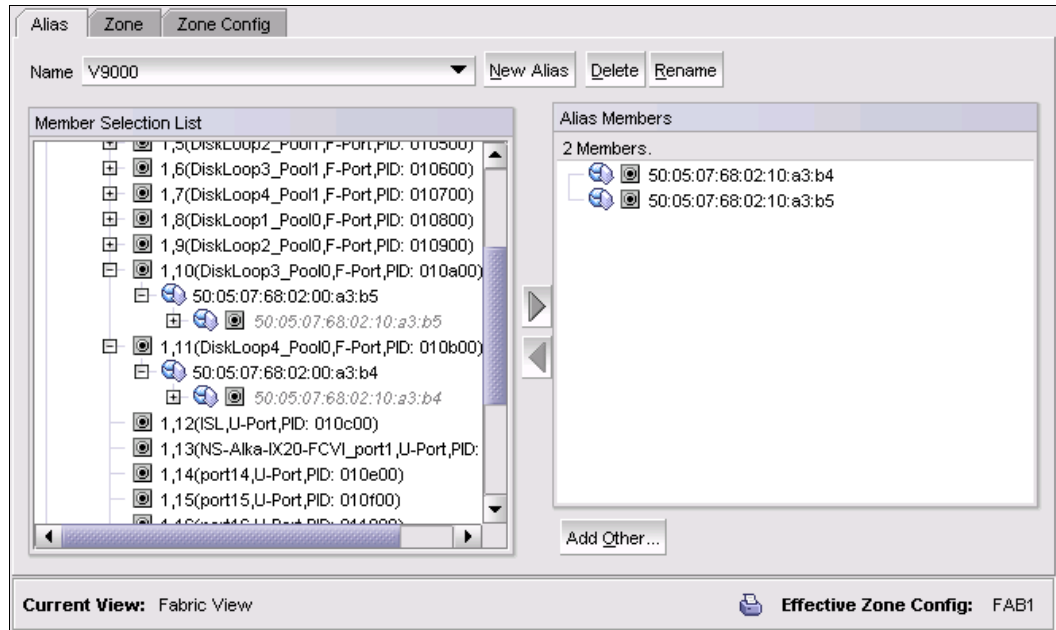

Figure 7-22 SAN switch ports 10 and 11 shows which WWNs are connected
3. By logging on to the SAN switches, review the zoning configuration either by using CLI or GUI (as in this example). The physical WWNs can be reviewed while they are connected to the SAN switch ports. IBM FlashSystem V9000 control enclosures connect with two connections to SAN switch ports 10 and 11, as shown in Figure 7-22 on page 313. A similar configuration exists on the second switch fabric, which is not shown here.